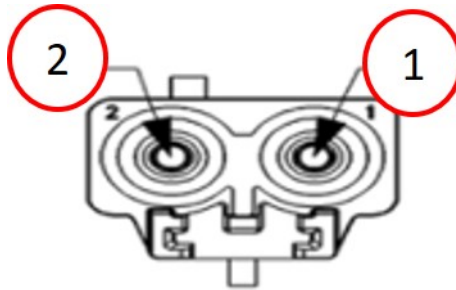

Fig. 3
4. Lift the connector tab carefully to not break it and remove the thinner wire from Y342A cavity 'one' (Fig. 3) .